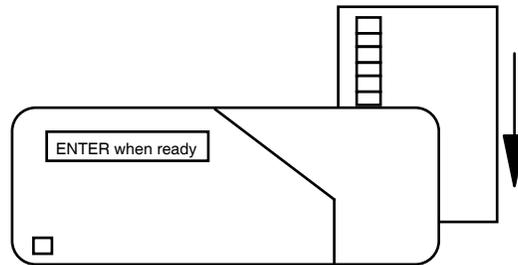

Figure 4-7. Film Orientation
5. Within 5 seconds, load the film from the top of the unit, oriented so that step 1 (lowest density) is measured first (see Figure 4-7).